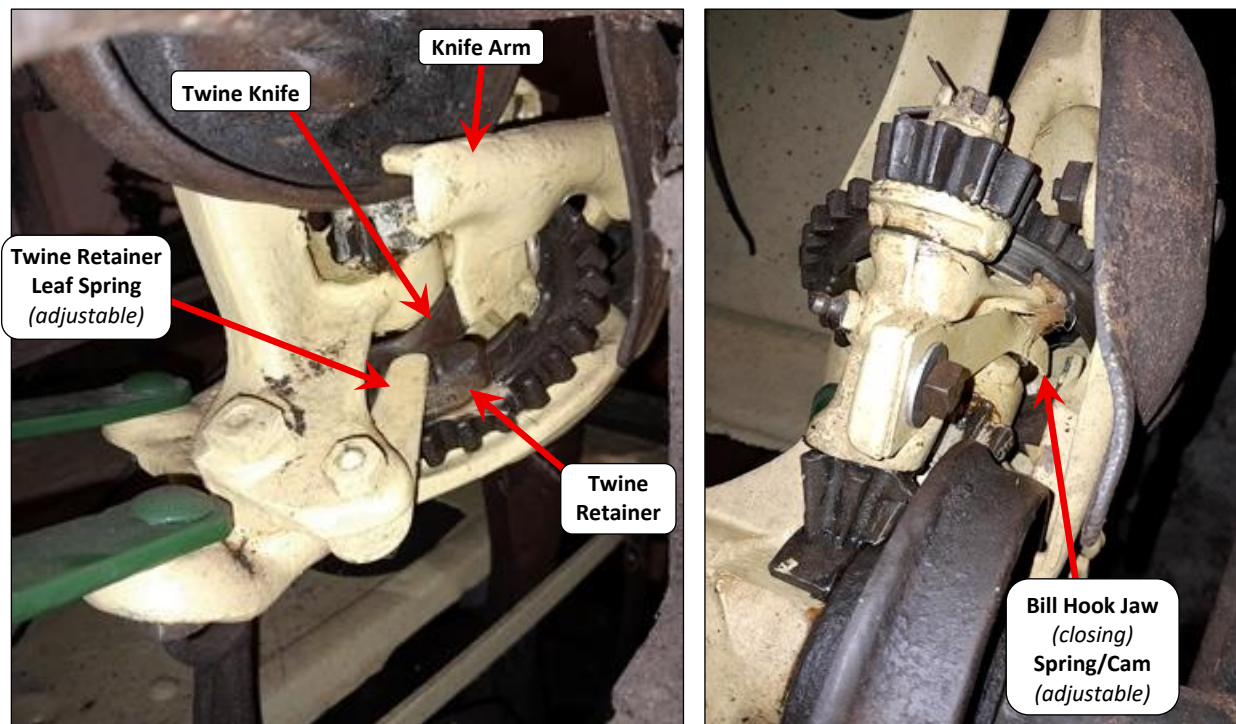

Fig.5.19 Massey-Harris binder knotter – Arrangement of Twine Retainer & Twine Knife (*left*) and Bill Hook closing spring/cam (*right*)
- **Twine Retainer:** Slotted, pivoting ‘shoe’-type, pressed down over the Twine Disc’s rim edge by an (*adjustable*) leaf spring (Fig.5.19)